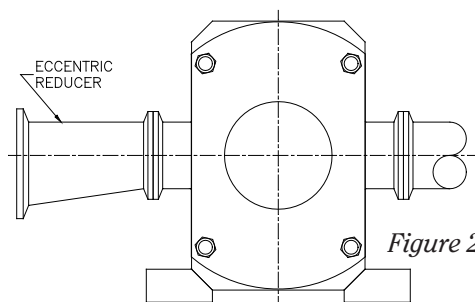

Figure 2
- Slope inlet piping up to pump to avoid air pockets or if suction piping is larger than the pump inlet, use an eccentric reducer, straight side up, to prevent air pockets from forming. (*Figure 2*).